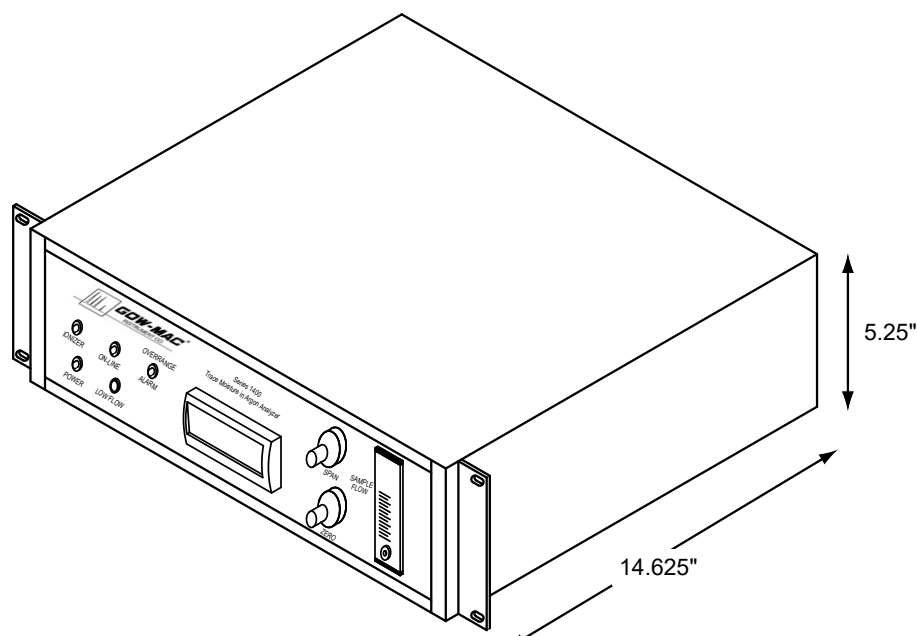

Figure 3-1: Series 1400 Analyzer Dimensional Drawing
- 5-1/4-inches (13.3 cm) of 19-inch rack space, as shown in Figure 3-1